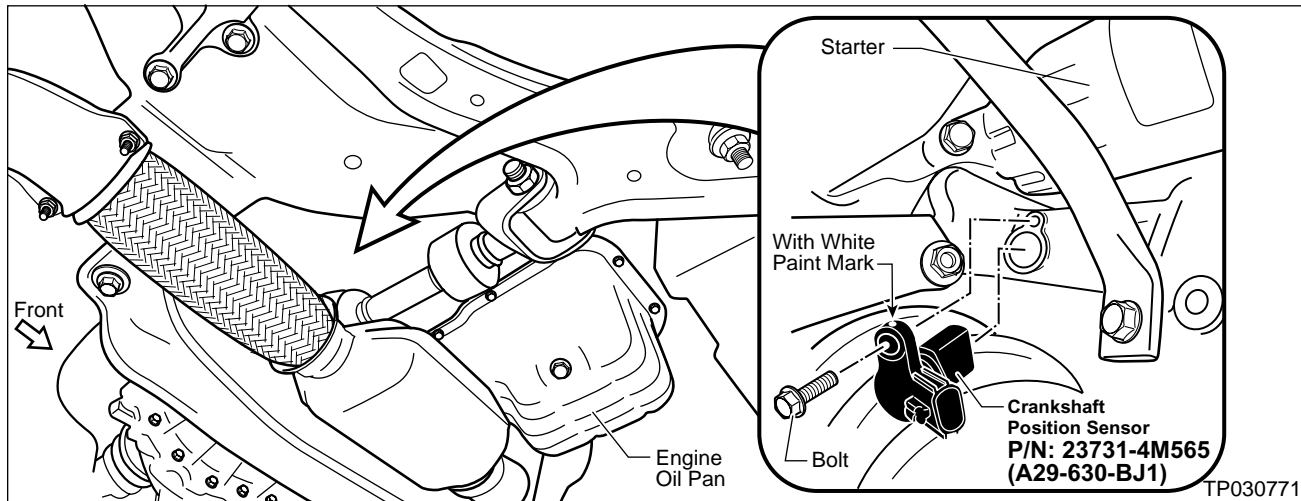

Figure 2
* This sensor has a white paint mark on it (see Figure 2).
2. Locate the **Crankshaft Position Sensor** (see Figure 2).